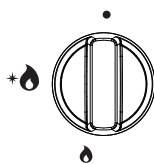

Fig.1
1. To light the hob, push down the appropriate knob and turn anti-clockwise to the large flame symbol (Fig.1).